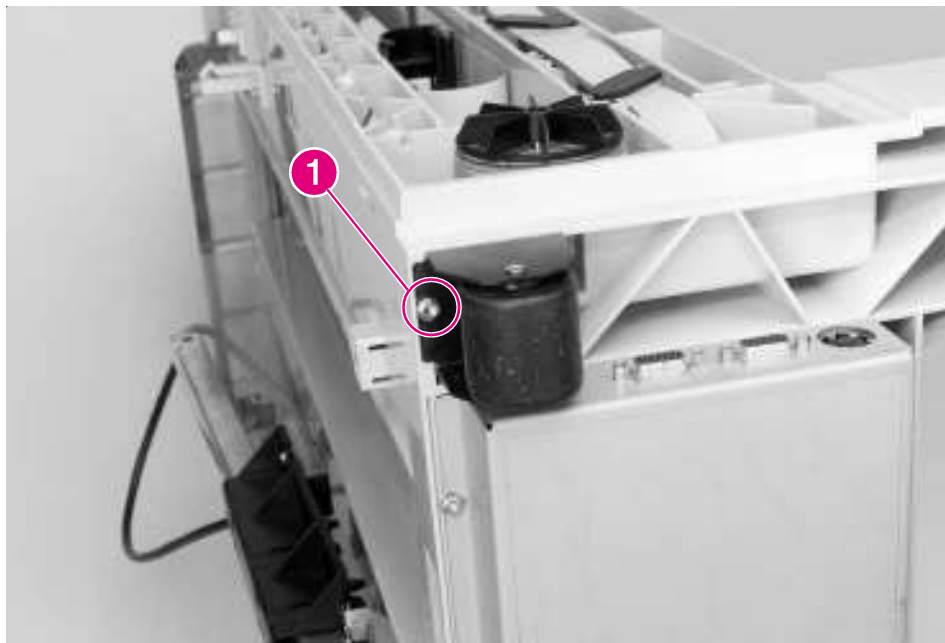

Figure 6-178 8-bin Mailbox Adjustable and Fixed Casters
- 3 Remove the 1 screw that secures the caster to the 8-bin Mailbox frame (Figure 6-178, callout 1).